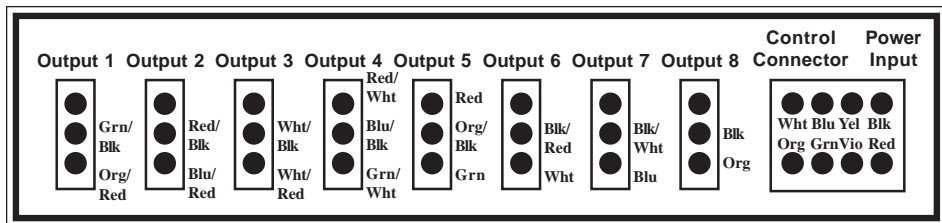

Figure 7
- 5) Plug the connectors into the Power Supply in the proper order as shown in figure 7.